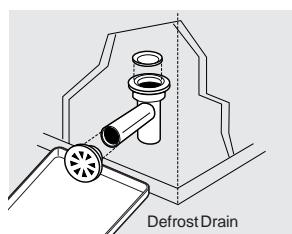
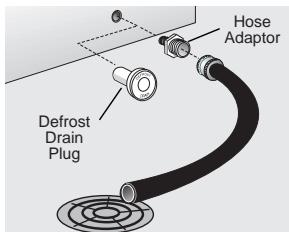
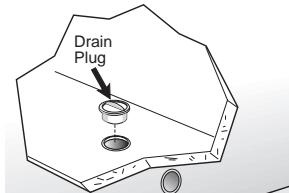

Figure 2
Figure 3
Figure 4
- On chest models with a defrost drain**, place a shallow pan beneath the drain outlet (Figure 2). A $\frac{1}{2}$ inch garden hose adapter can be used to drain the freezer directly into a floor drain (Figure 3). If your model is not equipped with an adapter, one can be purchased at most hardware stores. Pull out the drain plug inside the freezer, and pull off the outside defrost drain plug (Figure 4).